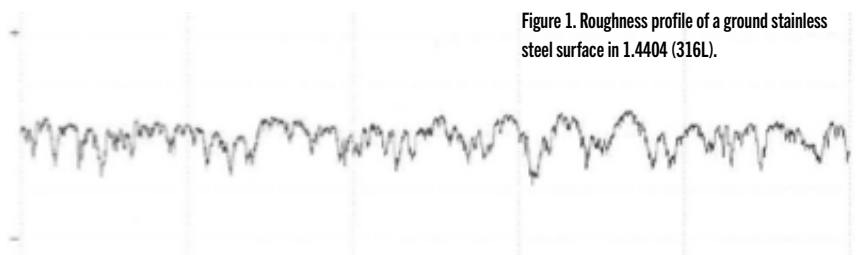
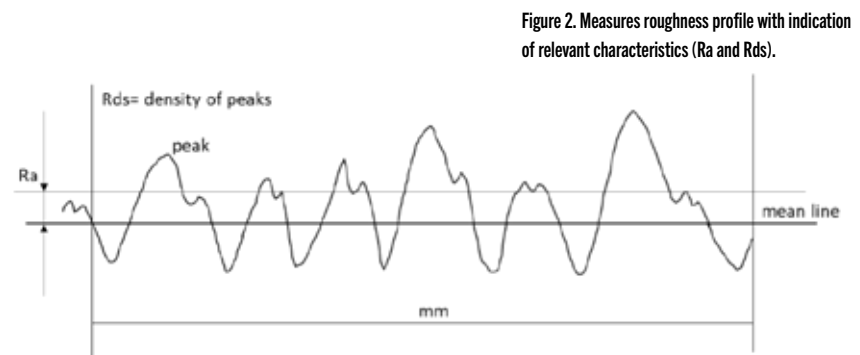

Figure 1. Roughness profile of a ground stainless steel surface in 1.4404 (316L).
Figure 2. Measures roughness profile with indication of relevant characteristics (Ra and Rds).
The current guidelines and rules of thumb are based on the characterization of surface roughness given by the Ra value. This is a measure of the mean distance between top and bottom over a distance of six mm on the surface (according to ISO 4287), and it is often measured only in one direction. Traditionally, this measurement takes place with a physical pickup, which is moved across the surface. The characterization of the surface characteristics by only one number is a major simplification, which is quite easy to infer by observing a typical surface topography for a steel surface, as shown in figure 1. Typical surface profile for stainless steel is shown in figure 2.
To obtain a more adequate description of a surface like the one in figure 1, FORCE Technology has been working on the development of a hygiene factor (HF), which aims to better assess the hygiene quality of a surface. This measure also includes the number of peaks. The idea behind the hygiene factor is for the entire assessment to be carried out using an optical 3D microscope.